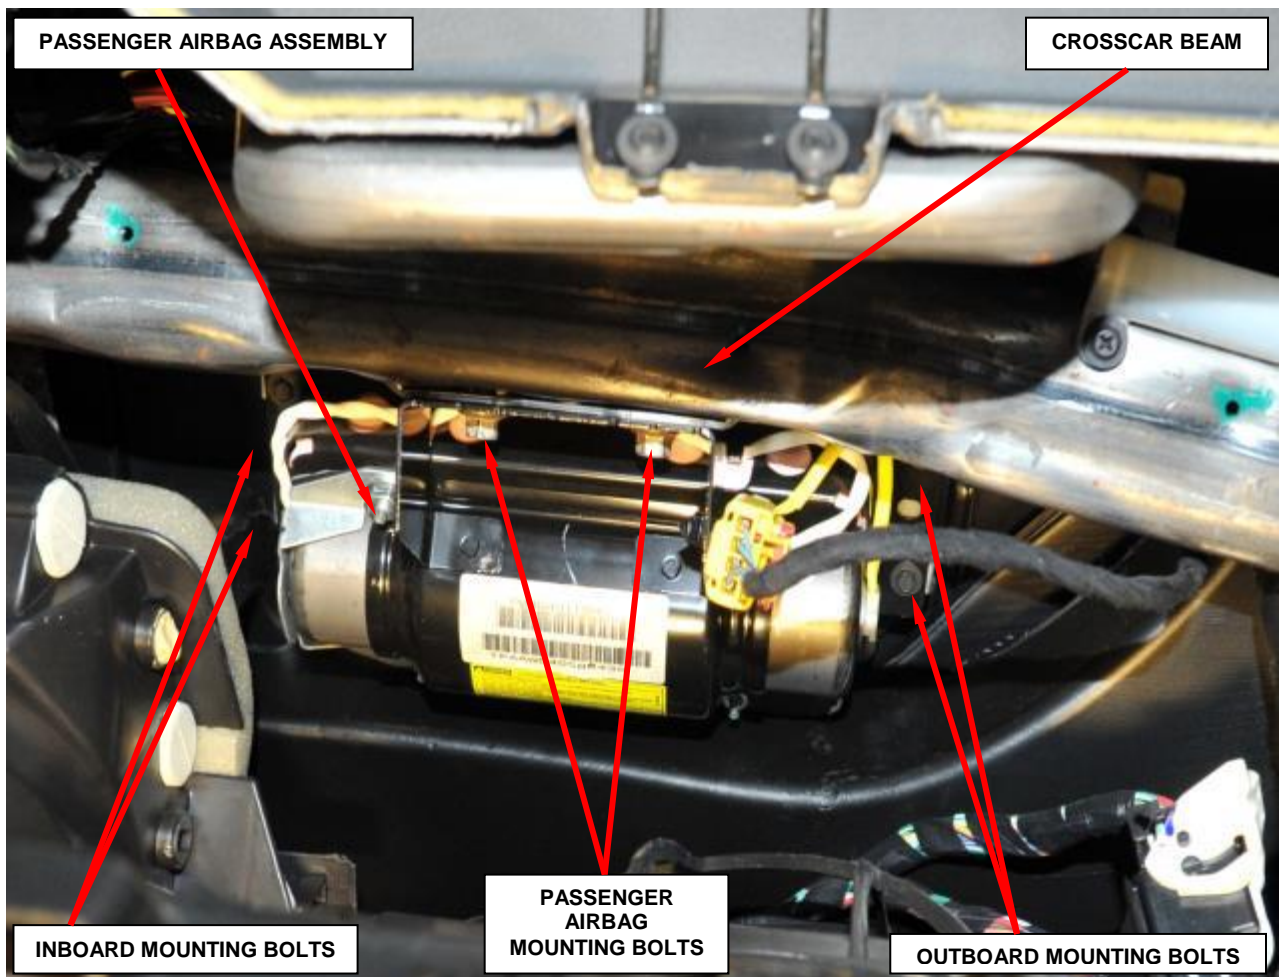

Figure 13 – Passenger Airbag Mounting Locations
5. Remove and save the two inboard mounting bolts to the passenger airbag assembly just below the distribution duct and to the left of the distribution housing (Figure 13).
6. Remove and save the two outboard mounting bolts to the passenger airbag assembly just below the distribution duct (Figure 13).
7. Remove and save the two passenger airbag assembly mounting bolts to the crosscar beam (Figure 13).